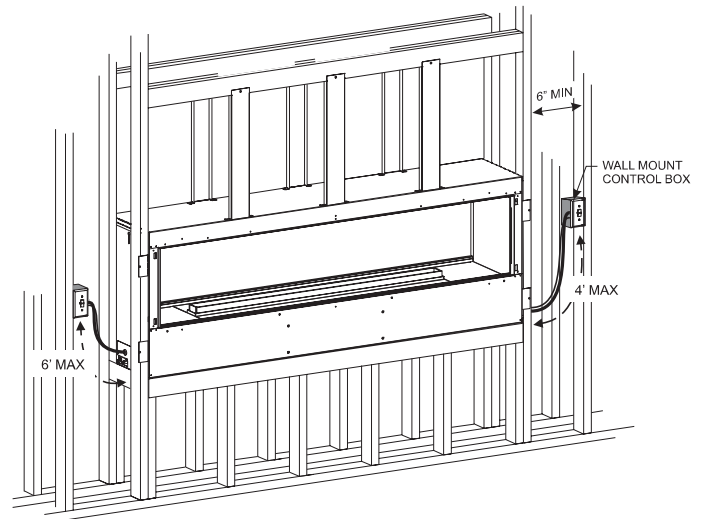

Figure 35
- Install the wall-mounted control box within 6 feet to the left side or 4 feet from the right. See Figure 35.